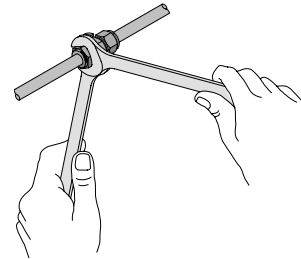

Fig. 16 Tighten Nut with Wrench
2. While holding the fitting body stable, tighten the nut 1/2 turn with a wrench. Fig. 16.